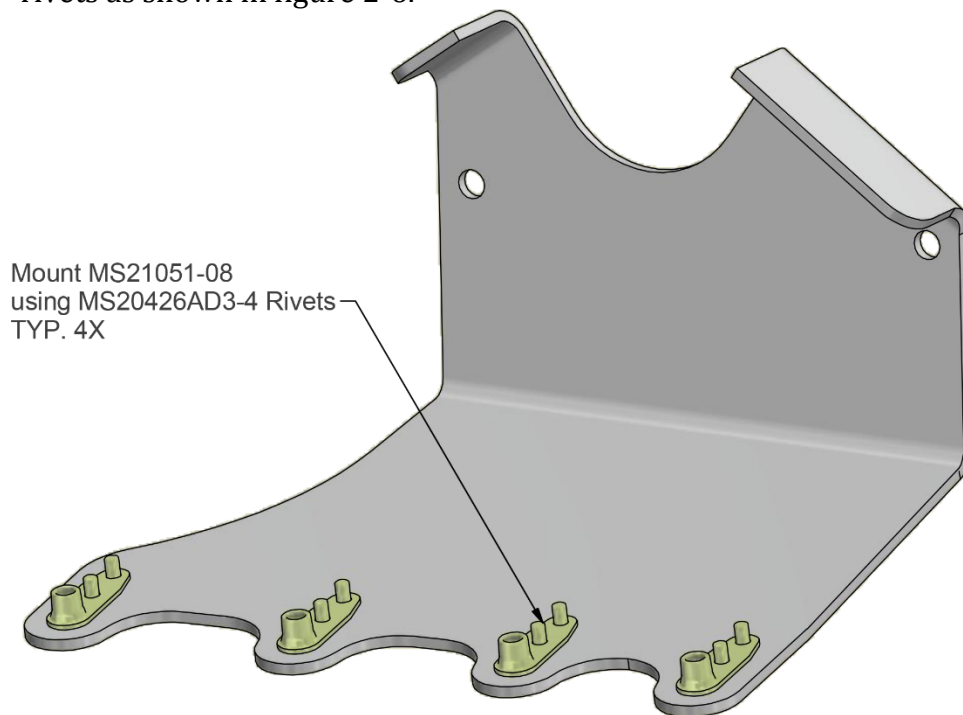

Figure 2-6
- 7.2. Rivet 4 ea. MS21051-08 anchor nuts in place using 8 ea. MS20426AD3-4 rivets as shown in figure 2-6.